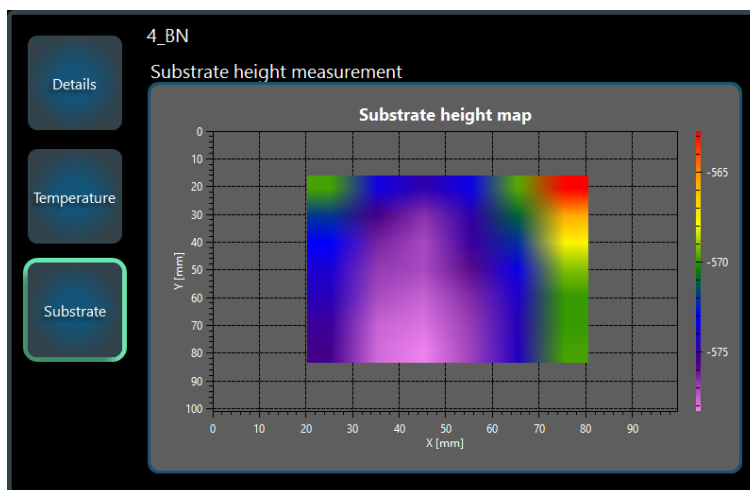

Figure 4-13 Substrate height map
2.3. If Hybrid or Fixed focus control mode is used (see "Automatic Focus control settings" on page 35), click Substrate to see a height map of the substrate, see Figure 4-13.